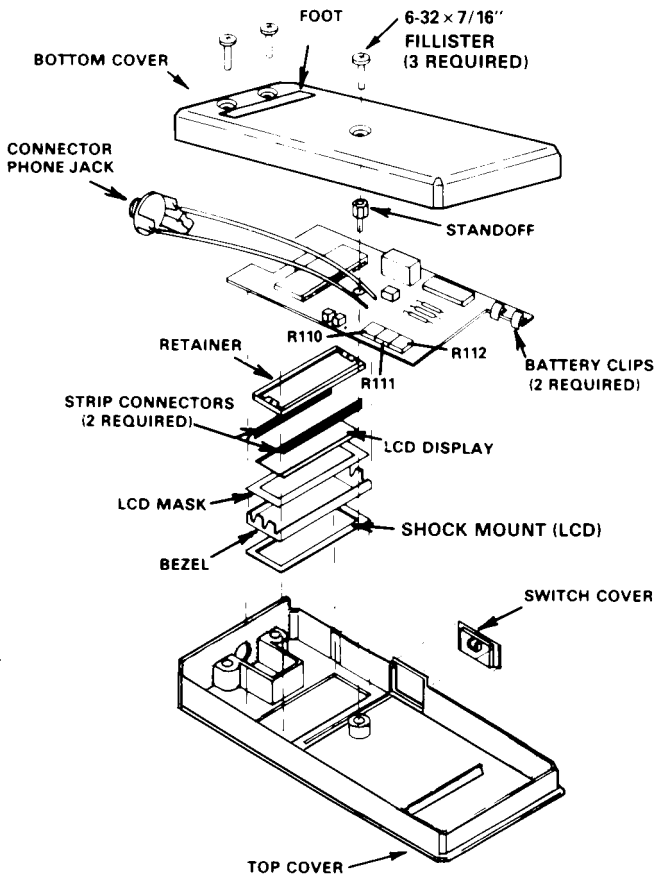

Figure 5-2 Models 865 and 866 Exploded View
7. The LCD is held in place on the PC board by a shock resistant-mounting and is assembled as shown in Figure 5-2.
1. Remove the bottom cover of the instrument (see Figure 5-2).